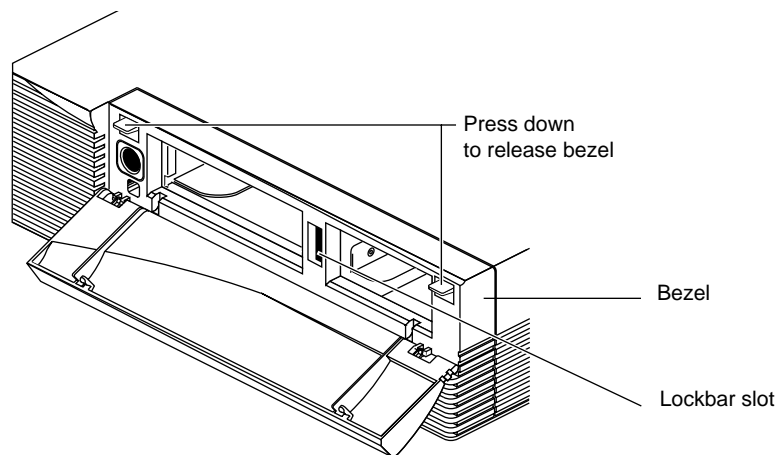

Figure 2-4 Releasing the Bezel
- Press down on the tabs on each side of the bezel, as shown in Figure 2-4.